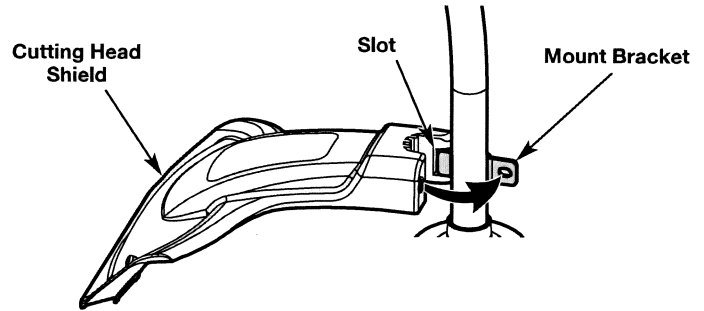

Fig. 1
2. Insert the short tab (the one without a hole) on the mount bracket into the slot on the cutting head shield (Fig. 1).
3. Rotate the cutting head shield counterclockwise to align the hole on the cutting head shield with the hole on the mount bracket (Fig. 1).